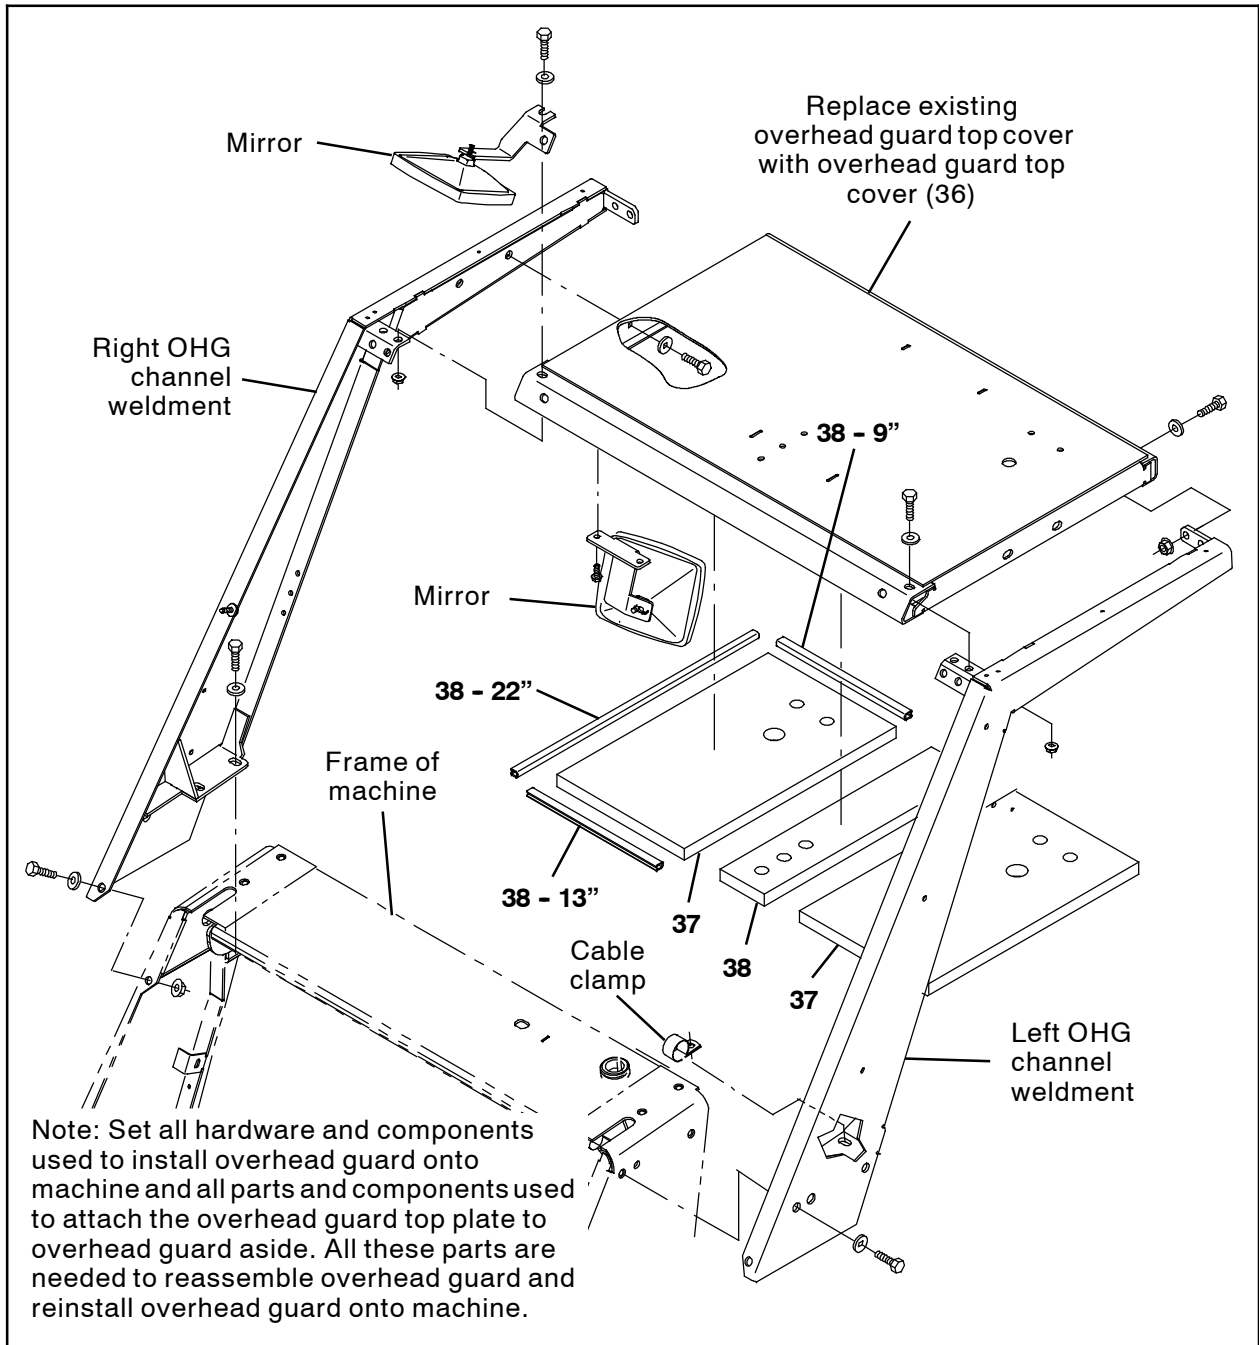
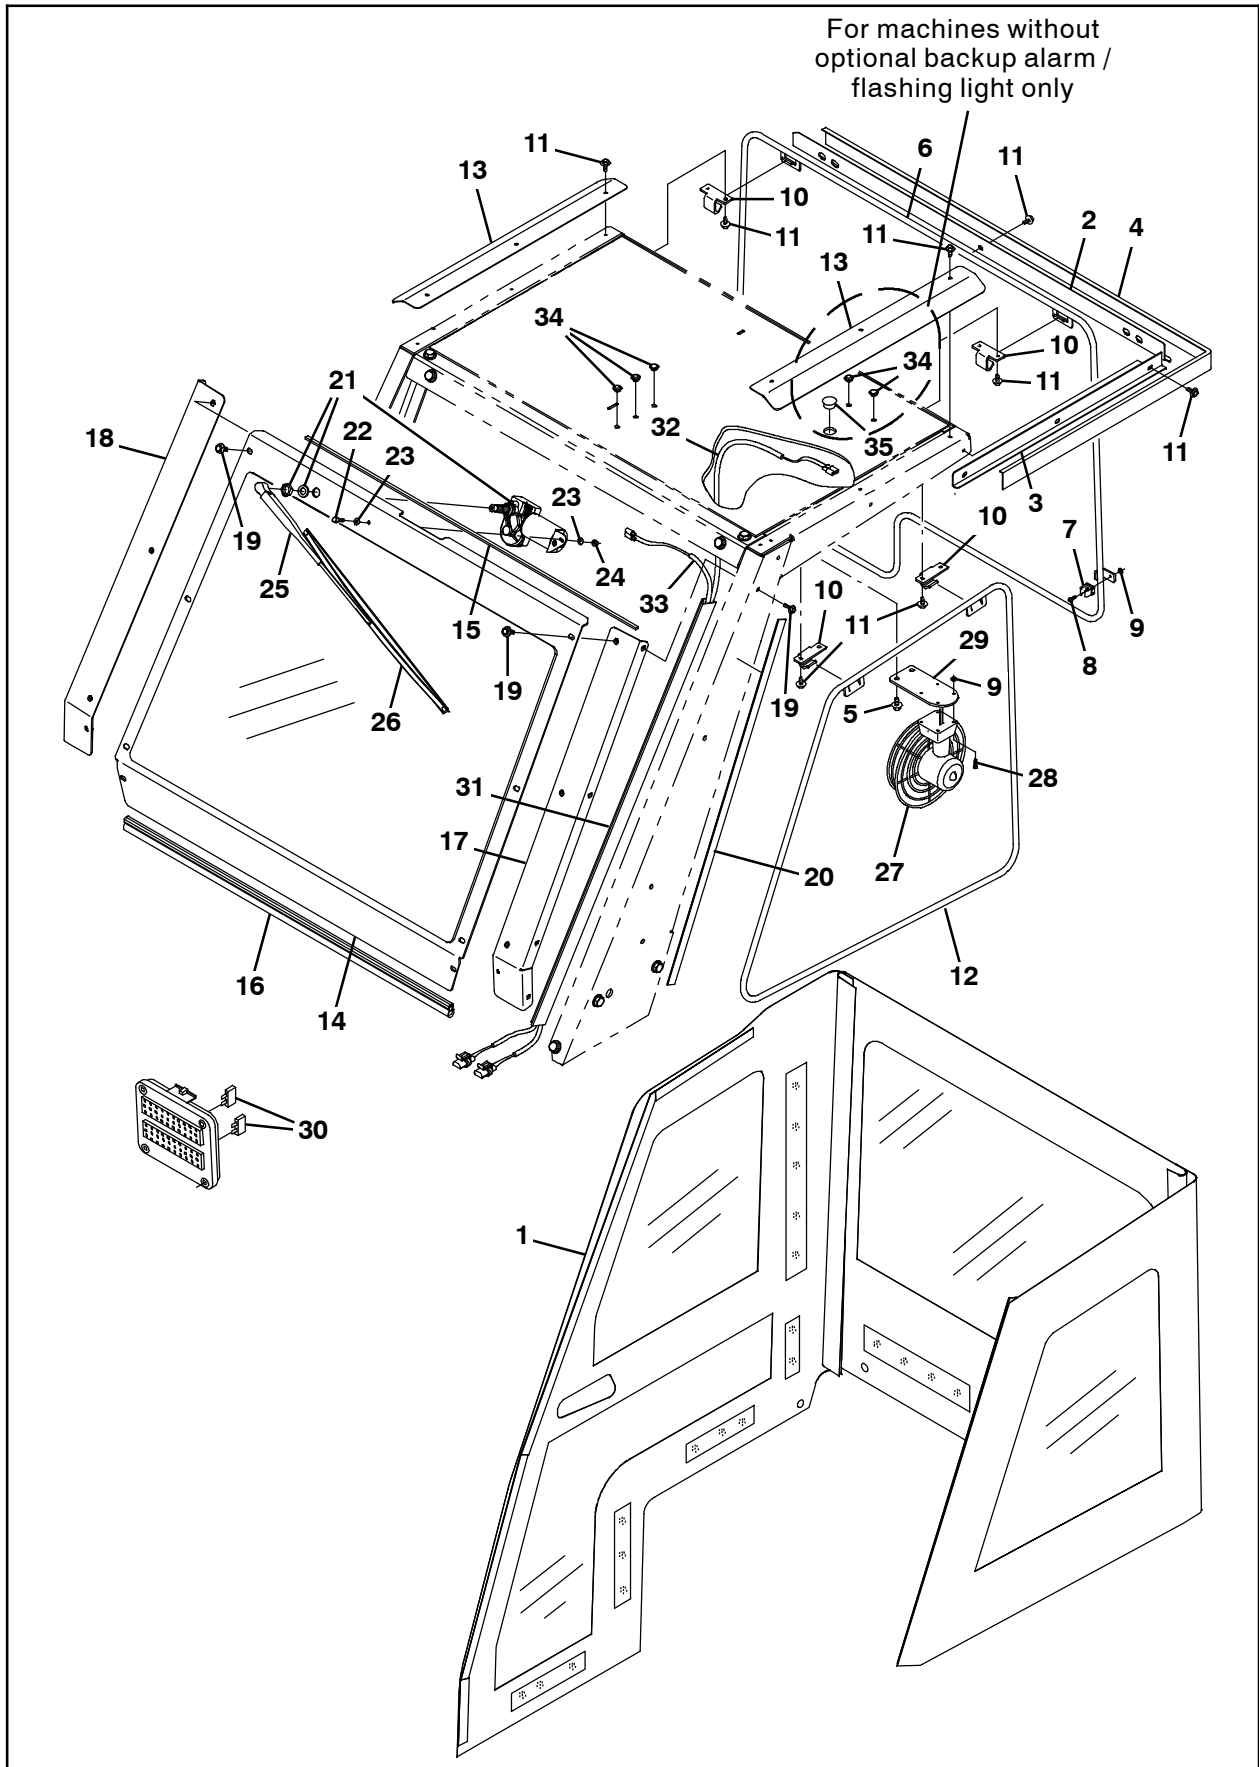
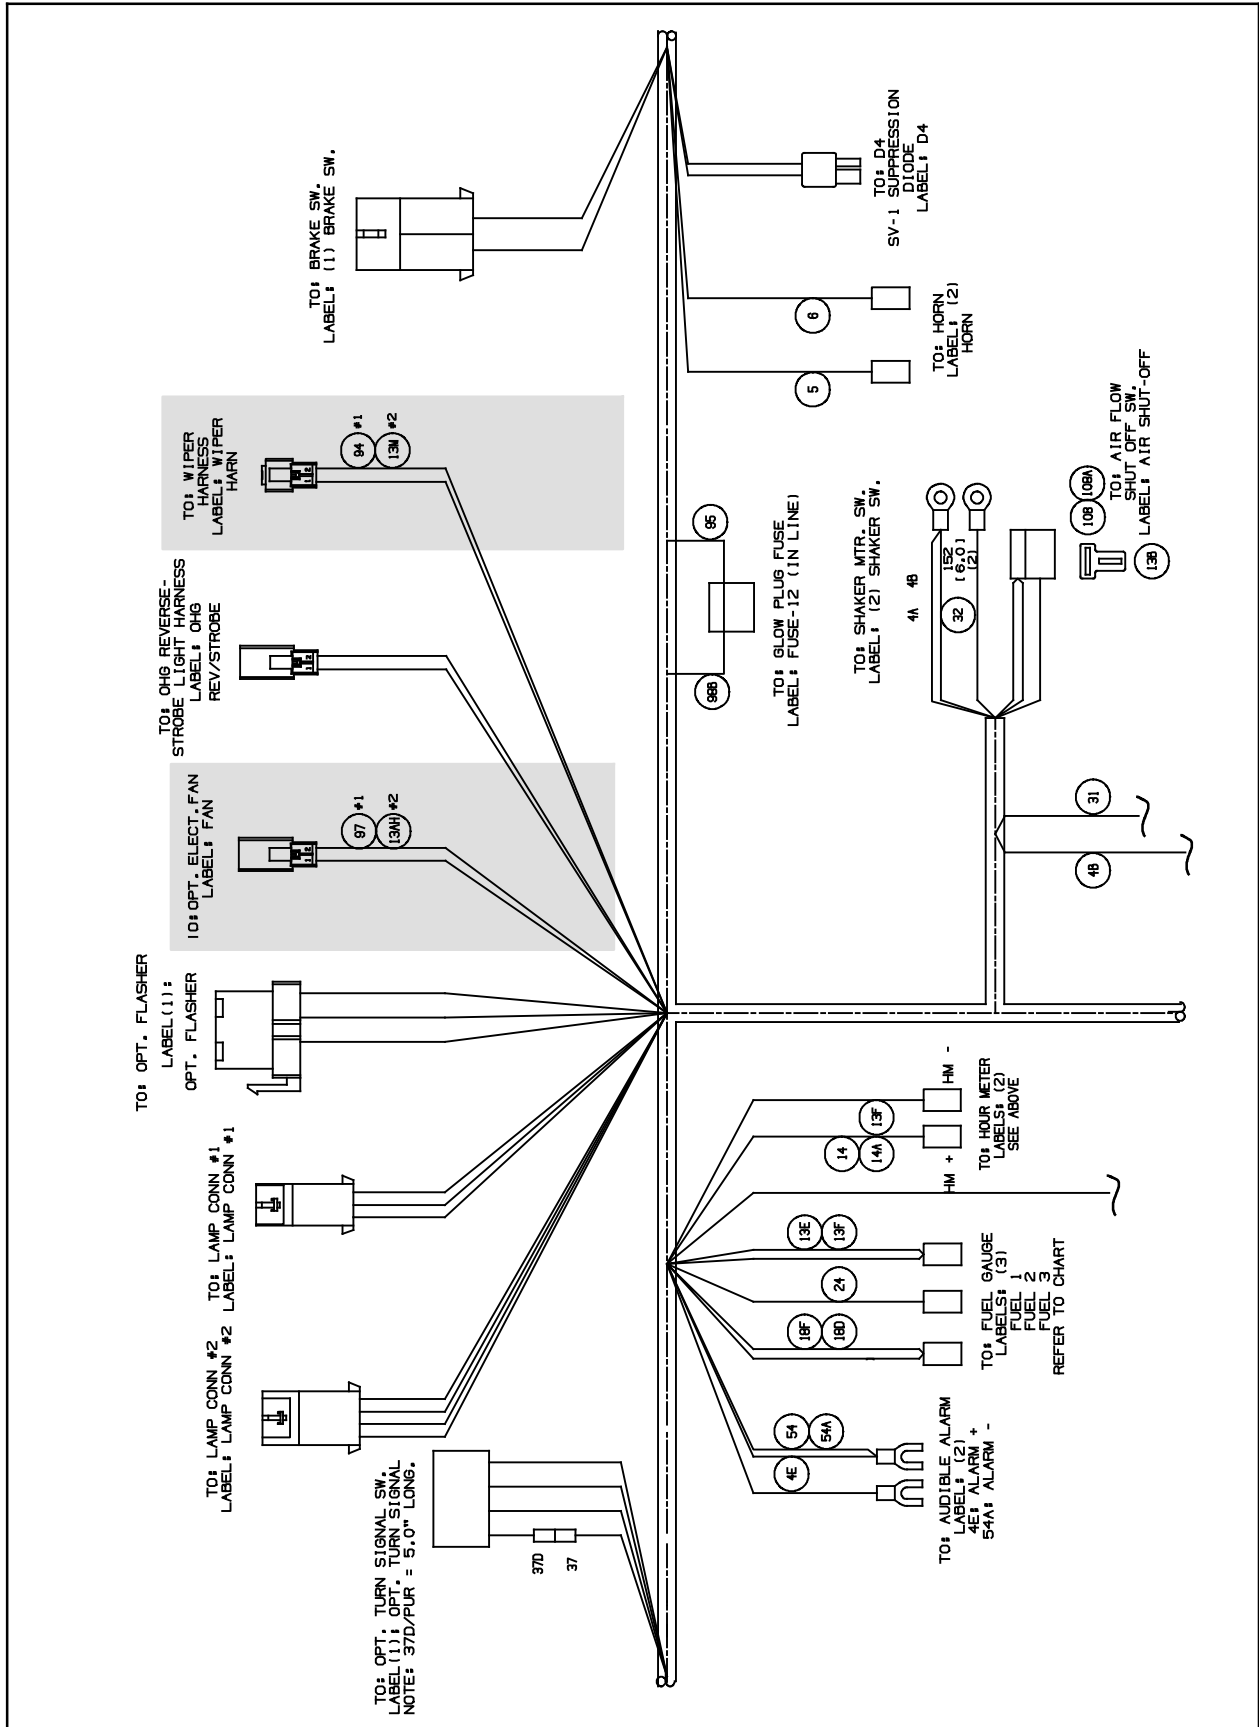

FIG. 2
FIG. 6
FIG. 7
3. Remove the mirrors from the overhead guard. Set mirrors and all hardware aside. (Fig. 2)
5. Remove the overhead guard top cover from the overhead guard. Discard the overhead guard top cover. Set remaining components and mounting hardware aside. (Fig. 2)
6. Use isopropyl alcohol to clean the surfaces of the new overhead guard top panel (36) where the insulation (37) and (38) will be installed. (Fig. 2)
7. Install both pieces of insulation (37) and insulation (38) onto the overhead guard top panel (36). (Fig. 2)
8. Use two M6 hex screws (11) to install each cab panel mounting bracket (10) onto the overhead guard. (Fig. 6)
9. Insert the three plastic plug holes (34) into the overhead guard top cover (36).
10. **Machines without optional backup alarm / flashing light only:** Insert the two plastic hole plugs (34) and plastic hole plug (35) into holes for backup alarm / flashing light in the overhead guard top cover (36).
11. Install the overhead guard top cover (36) onto the left and right overhead guard channel weldments. (Fig. 2)
12. Install all components removed from the old overhead guard top cover onto the new overhead guard top cover (36).
13. Cut two 10" lengths of vinyl duct (31).
14. Use isopropyl alcohol to clean the surfaces of the overhead guard top cover (36) where the 10" lengths of vinyl duct (31) will be installed. (Fig. 6)
15. Install both 10" vinyl ducts (31) onto the overhead guard assembly. Refer to Fig. 6.
17. Use three M4 hex screws (28) and three M4 hex nuts (9) to install the defroster fan (27) onto the fan mounting bracket (29). (Fig. 6)
18. Install the terminals (4) onto the defroster fan (27) wires.
19. Use two M8 hex screws (5) to install the defroster fan assembly onto the overhead guard top cover (36). (Fig. 6)
20. Use two M8 hex screws (5) to install the defroster fan assembly onto the overhead guard top cover (36). (Fig. 6)
21. Connect the fan harness (32) to the defroster fan (27).
22. Route the fan harness (32) through the 10" vinyl duct (31), down through the 28" vinyl duct, and into the operator compartment. (Fig. 6)
23. **Machines with optional backup alarm / flashing light only:** Insert the flashing light / backup alarm harness into the 10" vinyl duct (31) and the 28" vinyl duct and plug the harness back into the backup alarm / flashing light assembly. (Fig. 6)
24. Install the bulb seal (16) onto the windshield assembly (14). (Fig. 6)
25. Install the bulb seal (15) onto the windshield assembly (14). (Fig. 6)
26. Use sixteen SEMS M8 hex screws (19) to install the left window mounting angle (17), right window mounting angle (18), and windshield assembly (14) onto the overhead guard assembly. (Fig. 6)
27. Remove the nut, spacer, and one rubber washer from the wiper motor assembly (21). (Fig. 6)
28. Use one M5 hex screw (22), two flat washers (23), and a M5 hex nut to secure the wiper motor assembly (21) to the windshield assembly (14). (Fig. 6)
29. Reinstall the nut, spacer, and rubber washer to completely secure the wiper motor assembly (21) to the windshield assembly (14). (Fig. 6)
30. Install the windshield wiper blade (26) onto the windshield wiper arm (25). (Fig. 6)
31. Install the windshield wiper blade (26) | windshield wiper arm (25) onto the wiper motor assembly (21). (Fig. 6)
32. Connect the windshield wiper harness (33) to the windshield wiper motor assembly (21). (Fig. 6)
33. Route the windshield wiper harness (33) through the 10" vinyl duct (31), down through the 28" vinyl duct, and into the operator compartment. (Fig. 6)
34. Use three M6 hex screws (11) to install each top shield plate (13) onto the overhead guard assembly. (Fig. 6)